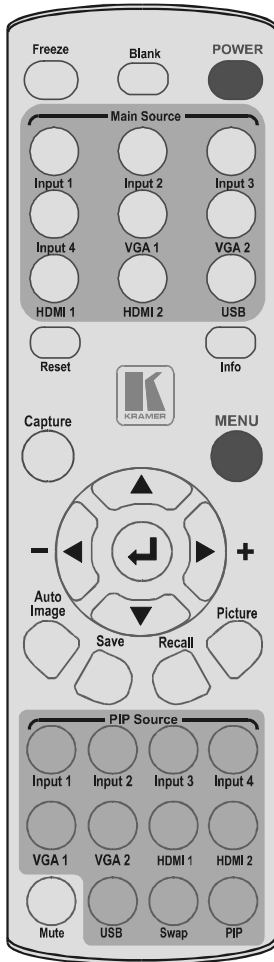
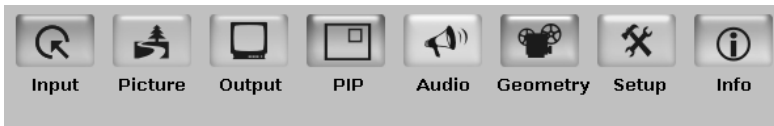

Figure 7: Infra-Red Remote Control Transmitter
Figure 8: MENU Items
- Pressing the PIP key on the infra-red remote control transmitter (see section 7.4, Figure 7)
To toggle back and forth between the PIP source and the main display, as Figure 6 illustrates, press the Swap key on the infra-red remote control transmitter (see Figure 7).
Figure 7 and Table 4 define the infra-red Remote Control Transmitter:
- Press the MENU front panel OSD button or the MENU key on the infra-red remote control transmitter (see Figure 7) to display the main MENU screen¹, which displays eight interactive icons (see Figure 8)